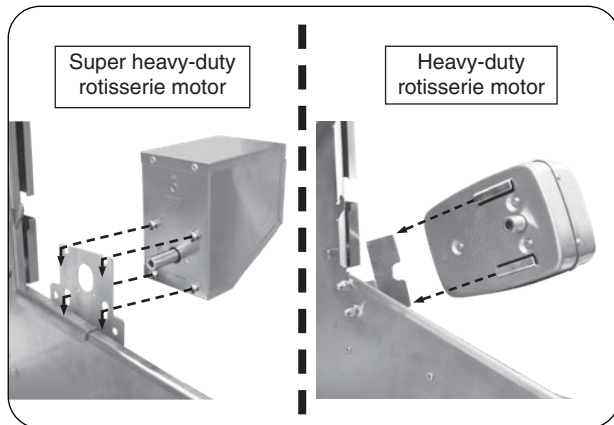

Fig. 3-2 Install rotisserie motor
3. Slide the rotisserie motor fully onto the motor bracket located on the right side of the grill (see Fig. 3-2) and connect it to a power source (do not turn on).